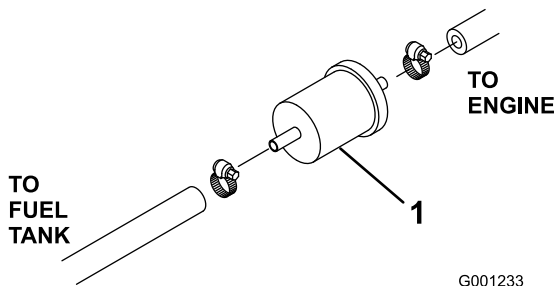

Figure 42
1. Clamp both fuel lines that connect to the fuel filter so fuel cannot drain when lines are removed (Figure 42).